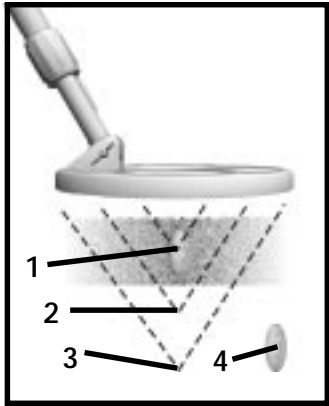

Figure 12. Search coil detection pattern.
11. Figure 12 on page 20 shows how the CZ-20 search coil pattern is affected by sweep speed, ground mineralization and search mode.